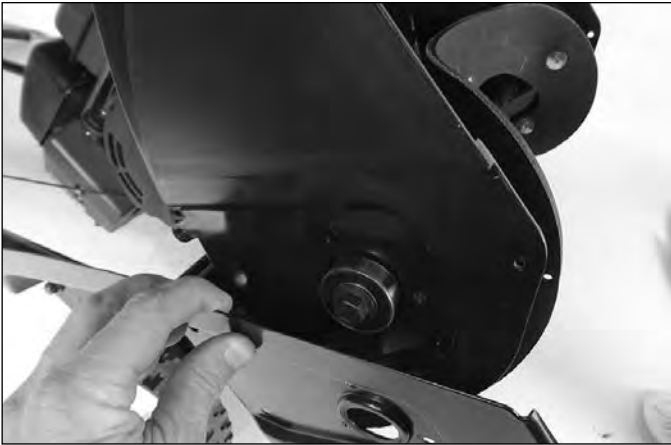

Fig. 009
5. Pull the side plate out slightly to gain clearance to get the rotor out (Fig. 009).